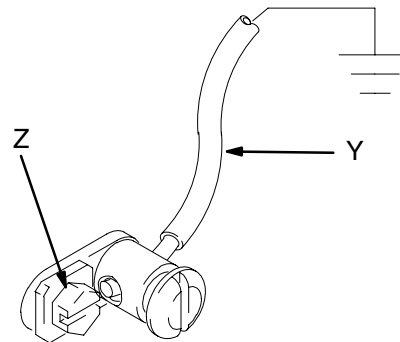

Fig. 1
- *Pump:* Use ground wire and clamp as shown in Fig. 1.
**To ground the pump,** remove ground screw (Z) and insert through the eye of the ring terminal at end of ground wire (Y). Fasten ground screw back onto pump and tighten securely. Connect the other end of ground wire to a true earth ground. See Fig. 1. *To order a ground wire and clamp, order Part No. 222011.*